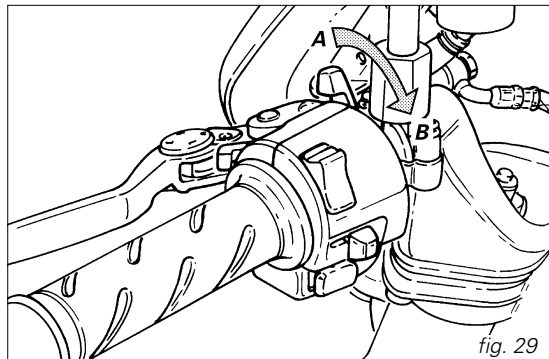

fig. 29
2) Move the fast-idle lever to position (B) (fig. 29).
4) Move the fast-idle lever towards its vertical position (A, fig. 29) until obtaining an engine speed of approx. 1400-1500 rpm.